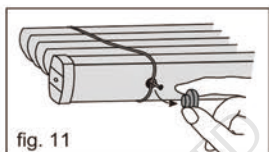

fig. 11
3. Lay blind on a flat surface and remove the caps on the bottom end slat. The caps are attached to the lift cords. See fig. 11.